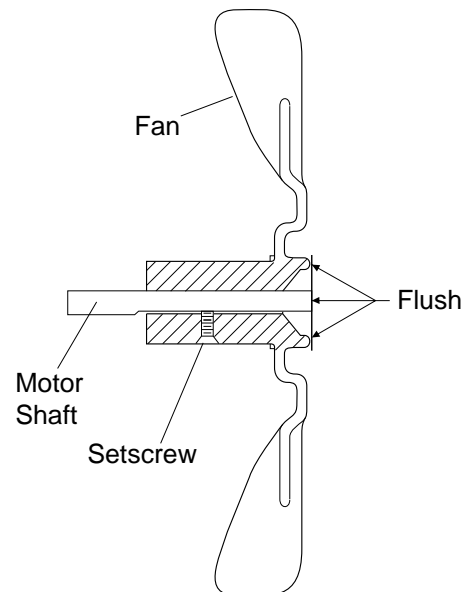

Figure 36 - Fan Cross Section
6. Replace fan on motor shaft. Place fan hub flush with end of motor shaft (see Figure 36).